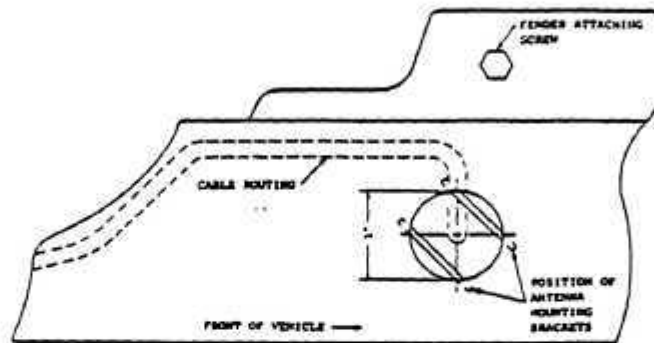
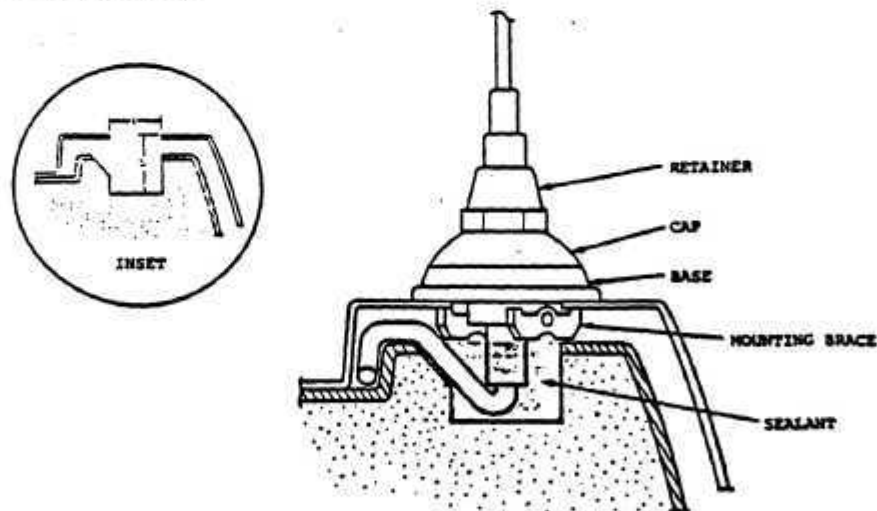

FIGURE 1
FIGURE 2
2. Using a hole saw, locate and drill a 1" diameter hole in the top of the right front fender approximately 4" from the rear of the fender. (See figure 1).
3. After cutting through the fender, continue to cut into the composite underbody approximately 1" deep as measured from the fender. (See inset - figure 2).
4. Using the hole saw, shave off the composite underbody away from the inboard 1/3 ridge of the hole cut in step 3 to obtain necessary clearance for antenna installation. (See figure 2).
6. Route the antenna's cable into the fender (as illustrated in figure 1) and towards the direction of the hole drilled in the right kick panel.
9. Position the antenna's mounting braces as illustrated in figure 1 and secure antenna as illustrated in figure 2.